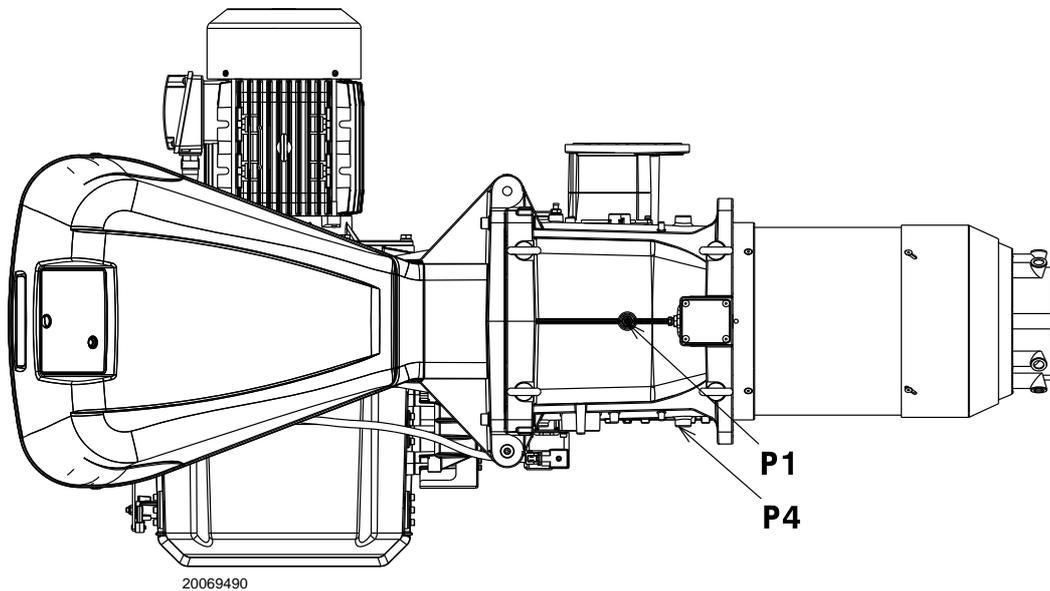

Fig. 27
Gas pressure measured at the test point P1)(Fig. 27), with:
- subtract the combustion chamber pressure from the gas pressure measured at test point P1)(Fig. 27).
Gas pressure at test point P1)(Fig. 27) = 58.1 mbar
To calculate the required gas pressure at test point P1)(Fig. 27), set the MAX output required from the burner operation:
- Read, on the right (column 1), the pressure at the test point P1)(Fig. 27).
Pressure required at test point P1)(Fig. 27).